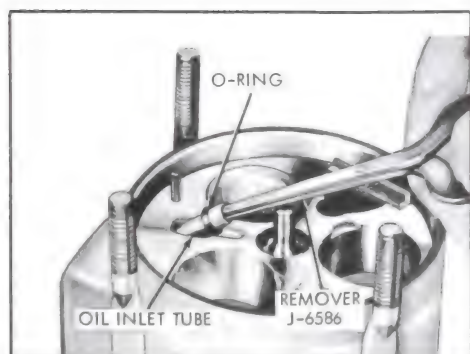

Figure 11-120—Removing Oil Inlet Tube
1. Remove oil inlet tube, using J-6586 Remover. See Figure 11-120. If tube “O” ring did not come out with tube, remove it from cylinder with small wire.